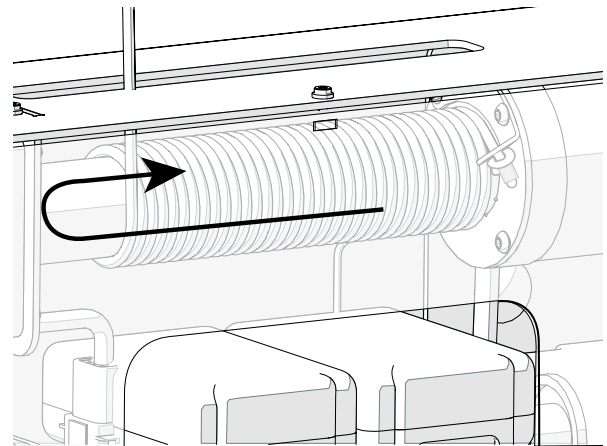

Fig. 15-2
- While holding tension on the cable, allow the cable to spool going from the right to the left and back as shown in Fig 15-2.